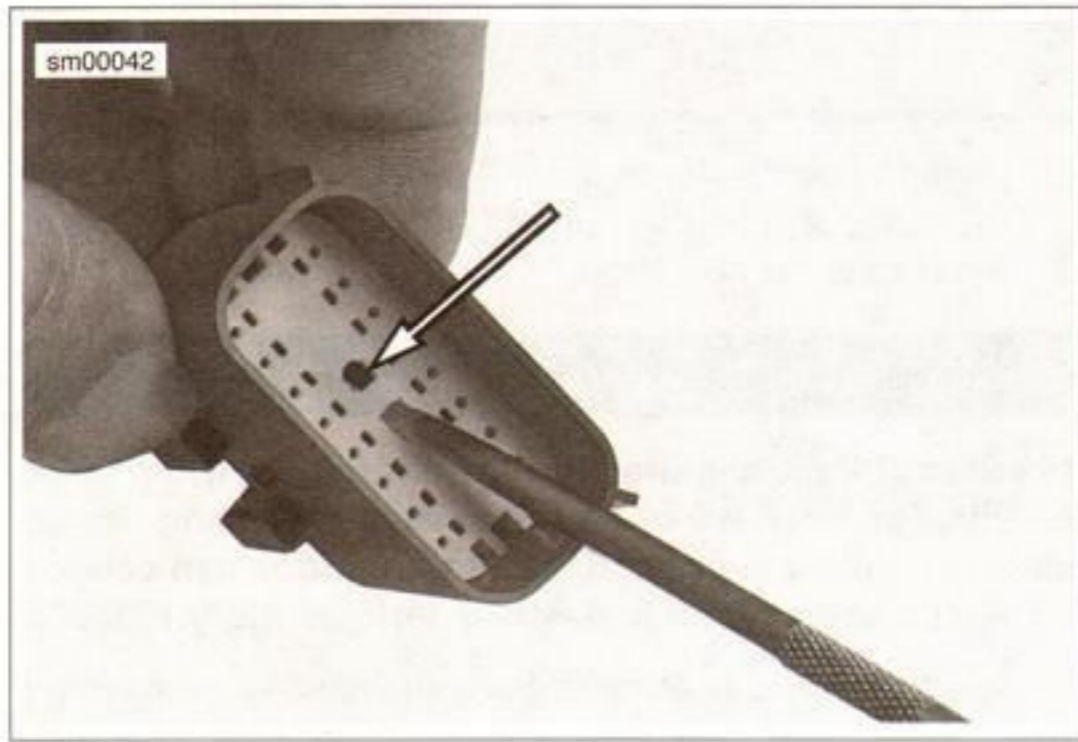

Figure A-26. Molex Connector: Secondary Lock D-Holes (Pin Housing)
- b. **Pin Housing:** See Figure A-26. Use needle nose pliers to engage the D-holes in the center of the secondary lock.